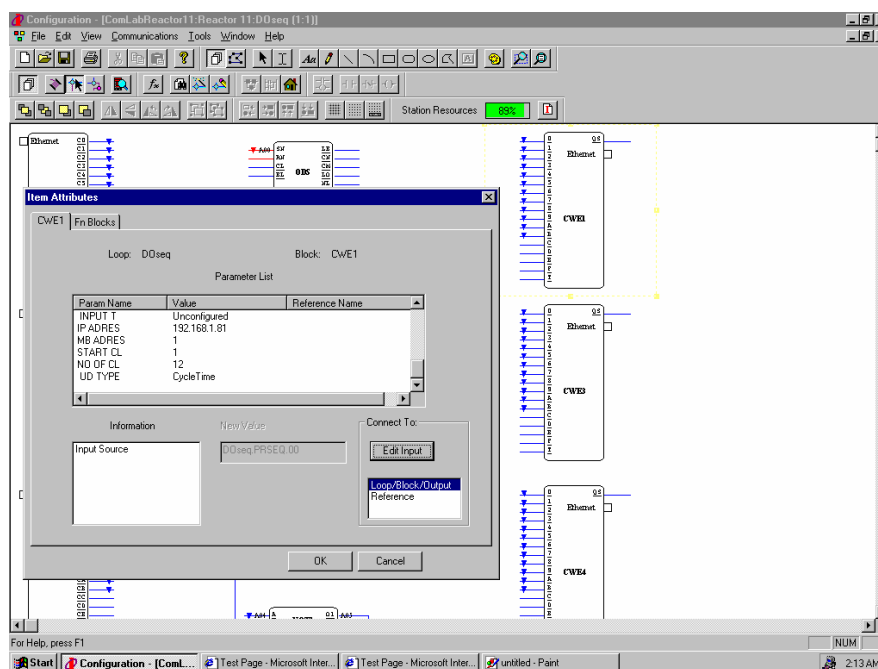

FIGURE 11 CWE Block, Item Attributes Page
2. Open the CWE₁ block and enter the configuration parameters. See Figure 11.